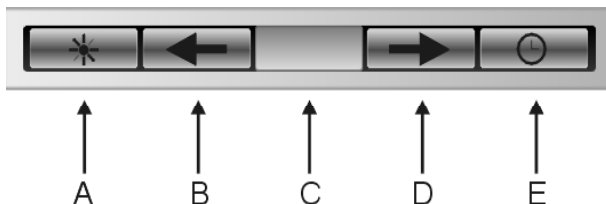

Fig. 2
- 1.1 - **STEUERTASTATUR 2 (Abb. 2)**
- 1.1 - **CONTROL PANEL 2 (Fig 2)**
- 1.1 - **TABLEAU DE COMMANDES 2 (Fig.2)**
- 1.1 - QUADRO COMANDI 2 (Fig. 2)**
- 1.1 - BETJENINGSOVERSICHT 2 (Fig. 2)**
- 1.1 - BEDIENINGSPANEEL 2 (Fig. 2)**